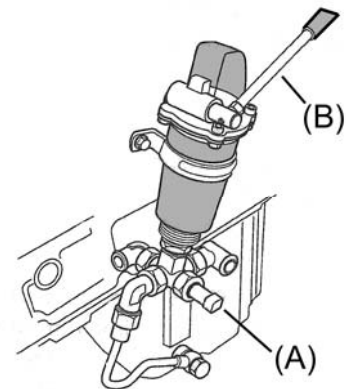

Fig. 4.1
This operation is done by oil drain pump (see Fig 4.1). Mount the handle (B). Set the knob (A) under the pump housing in position for pumping the oil sump. Connect a hose from the oil drain pump to a container. Process the old oil in accordance with the local regulations.